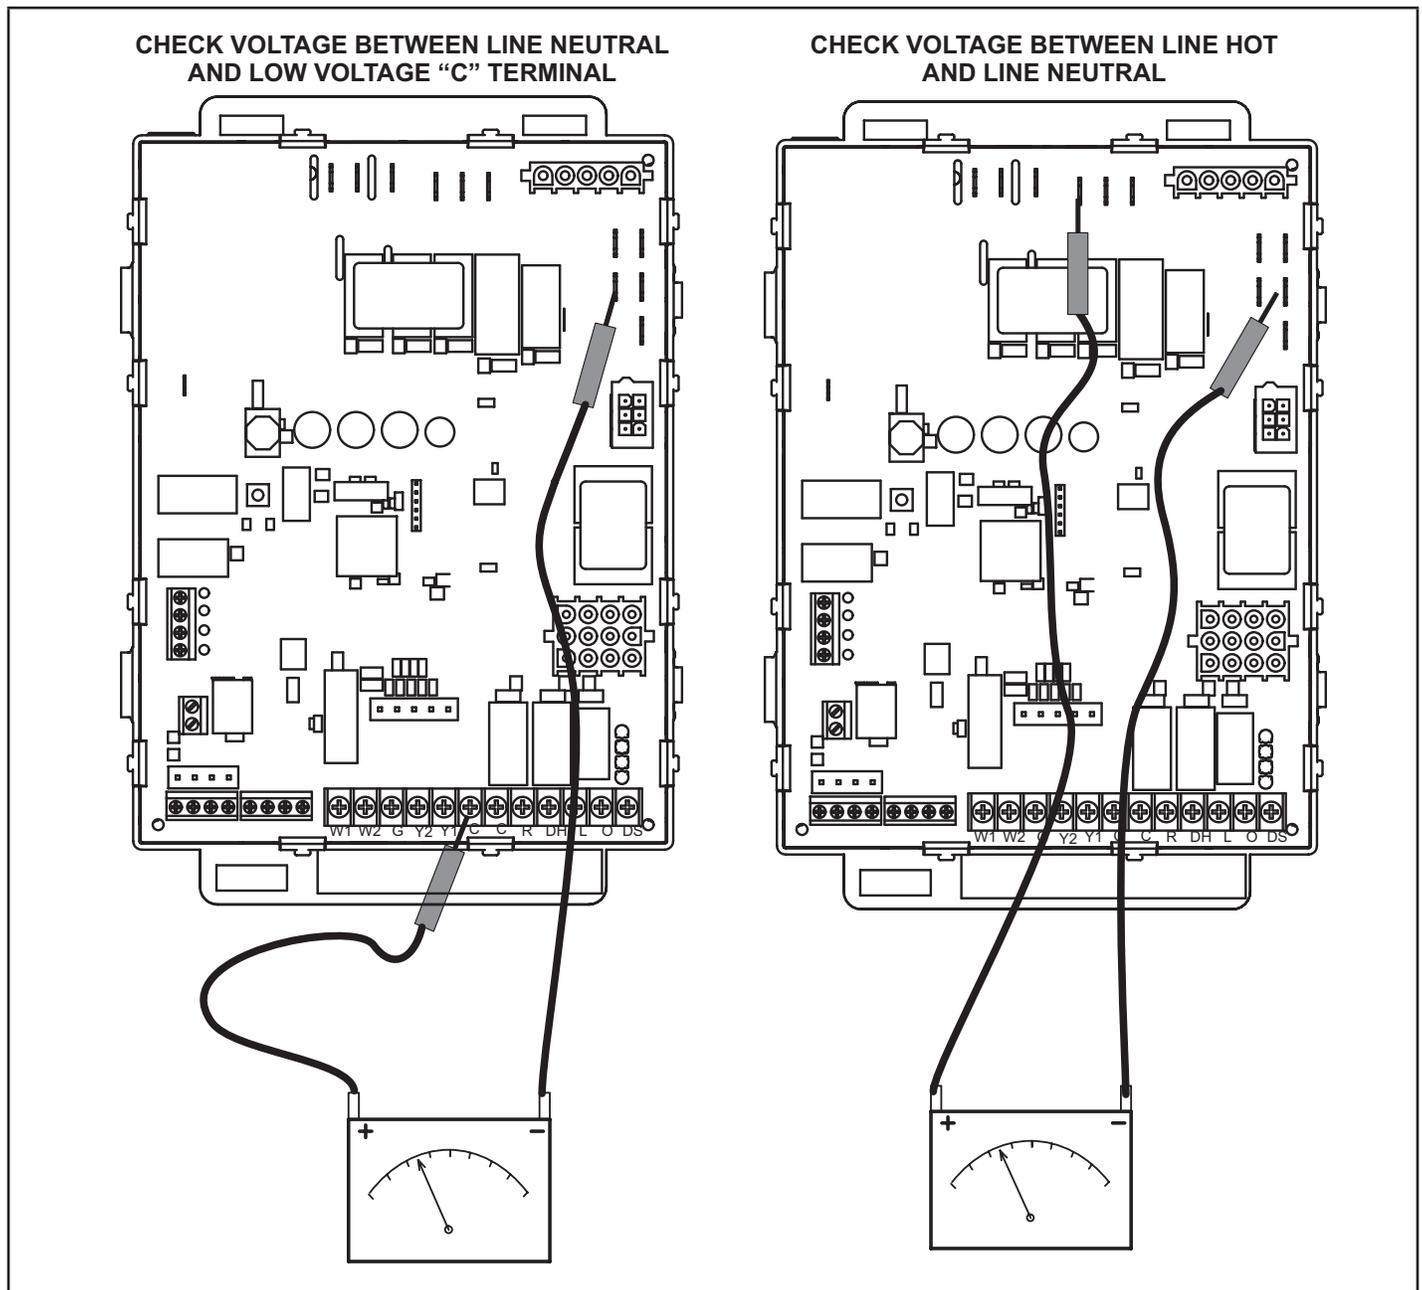

FIGURE 53
- 1 - Measure the AC voltage between Line Neutral (spade terminals) and "C" terminal (low voltage terminal block) on the integrated control. See FIGURE 53. A wide variation in the voltage between Line Neutral and "C" as a function of load indicates a poor or partial ground. Compare the readings to TABLE 29. If the readings exceed the maximum shown, make repairs before before operating the furnace.
Note - Ignition control in FIGURE 53 is typical. Use for reference only.
- 2 - In addition, measure the AC voltage from Line Hot to Line Neutral (spade terminals) on the integrated control. See FIGURE 53. This voltage should be in the range of 97 to 132 Vac.